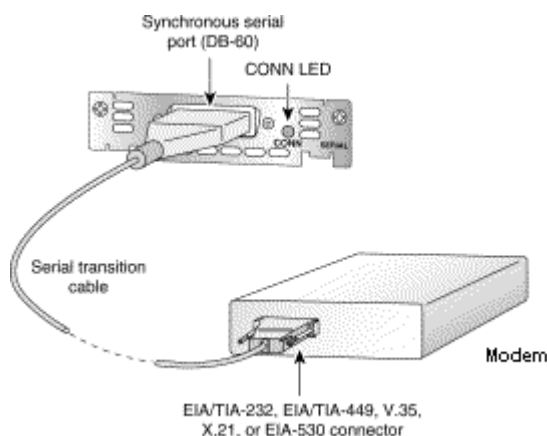

Figure 4
**Step 2** Connect the other end of the cable to the asynchronous modem that you provide (Figure 4)